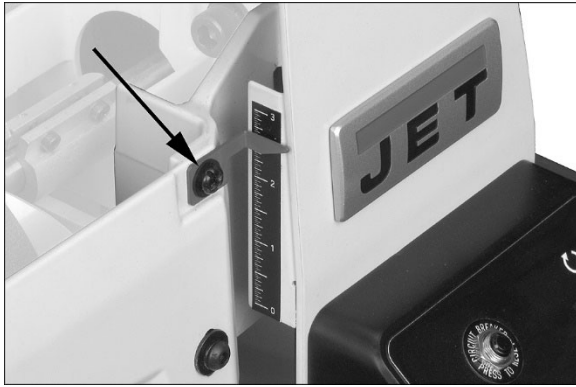

Figure 7-1: depth scale adjustment
3. At this drum position, the (top edge of) depth scale pointer should align with zero mark on scale. If it does not, loosen screw (Figure 7-1) and shift pointer to align with zero.